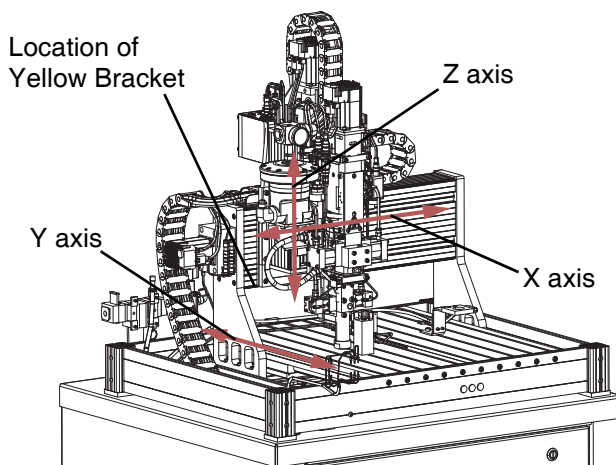

FIG. 4: Dispenser Axes Movement
3. Ensure that the axes moves freely left to right and front to back along the axes as shown in **Figure 4**, and that there are no physical obstructions to movement